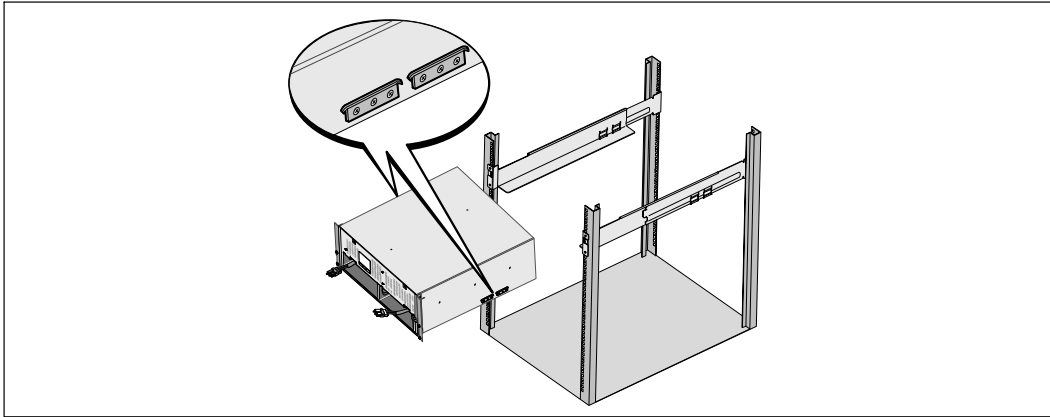

Figure 11. Installing the Cabinet
- 6 Slide the cabinet onto the rails and into the rack (see Figure 11).